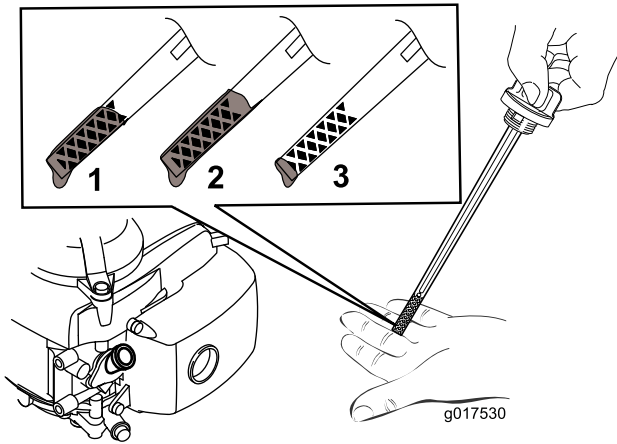

Figure 10
5. To determine the proper oil level on the dipstick, refer to Figure 10).
Note: Fill the engine crankcase with oil until the dipstick indicates that the engine oil level is correct as shown in Figure 10. If you overfill the engine with oil, remove the excess oil as directed in Changing the Engine Oil (page 15).